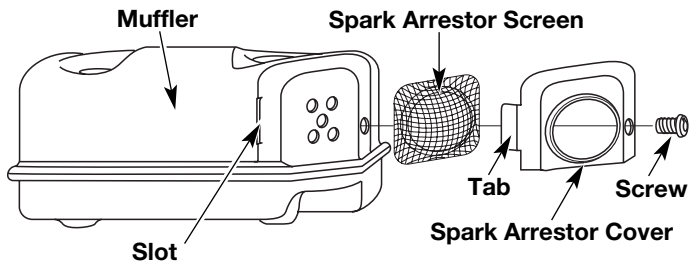

Fig. 69
2. With a flat blade screwdriver or Torx T-20 bit, remove the screw attaching the spark arrester cover to the muffler (Fig. 69).